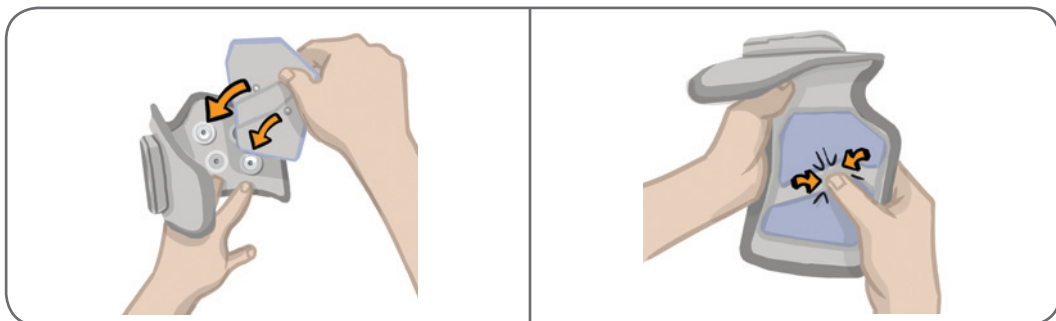

Figure 6-4: Aligning and Attaching the Quick Fit Electrode
5. Make sure the Cuff Snap Covers are in place. Align the orange and blue snaps on the Quick Fit Electrode with the orange and blue plug holes on the lower leg FS Cuff. See Figure 6-4.
6. Press firmly to snap the Quick Fit Electrode into the lower leg FS Cuff. See Figure 6-4.